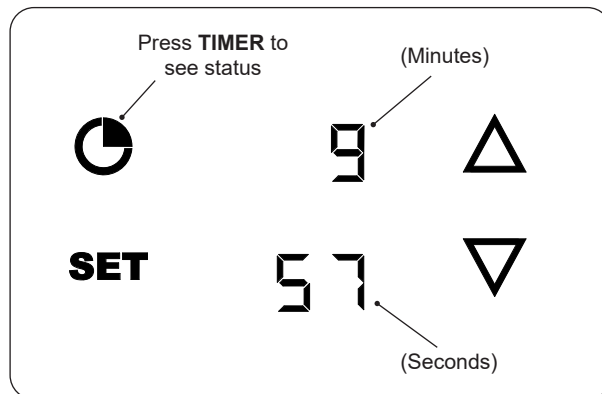

Fig. 35-2 Check timer status
- To check the timer status, press the **TIMER** button and the display will show the live countdown (for 5 seconds then, return to the default screen). See Fig. 35-2.
- The upper display indicates minutes and the lower display indicates seconds (see Fig. 35-2).